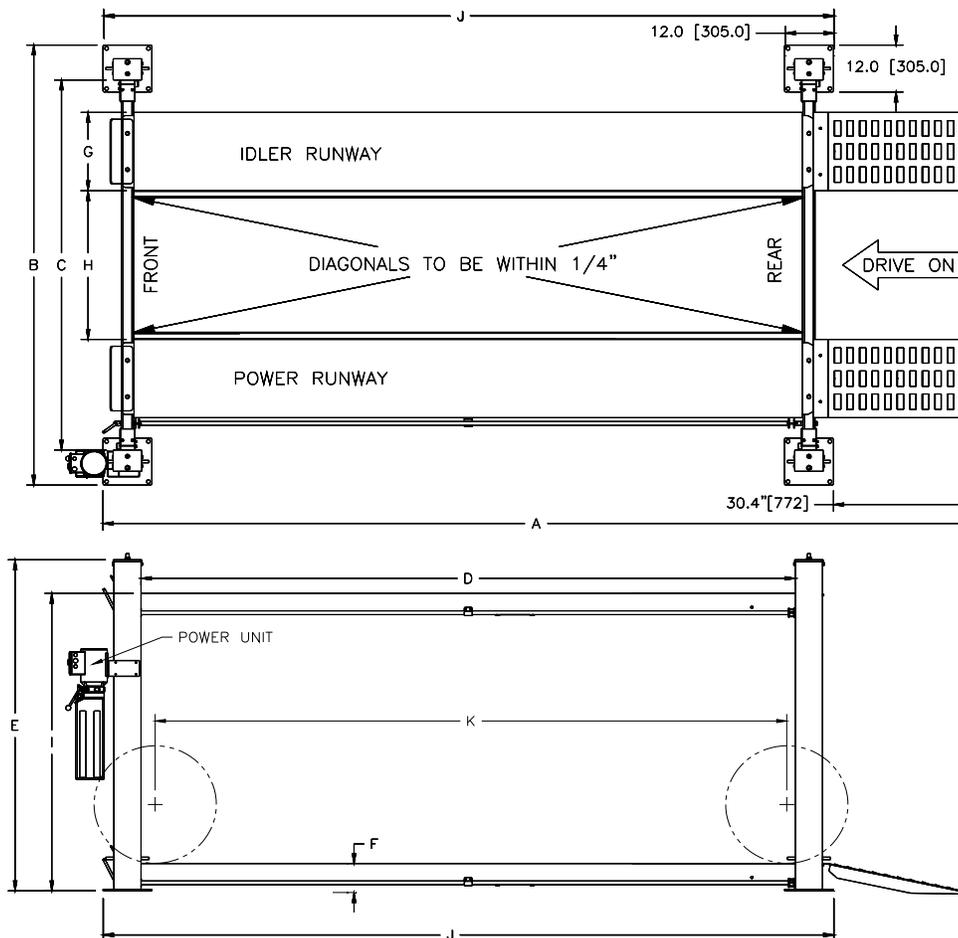
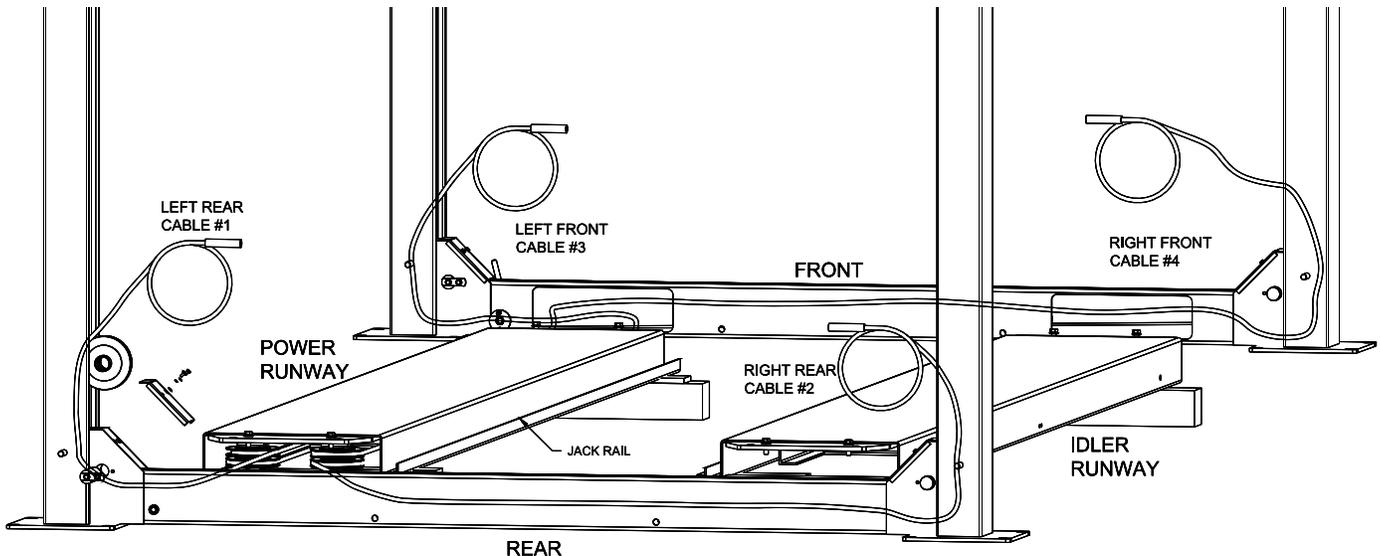

Fig 1 – General Specifications and Service Bay Layout
Fig 7 – Runway Layout
- 1) Lay out the service bay according to the architect's plans or owners' instructions (*see Fig 1*). Be certain that the proper conditions exist, see pages 2 & 3.
- 5) Disassembly each column assembly place the columns close to each corner per layout (column with the power unit bracket goes at the front left column per **Fig 1**).
- 6) With the runways spaced per **Fig 1** and blocked per **Fig 7**, using four 30" long 4x4's spanning the width of the runway and four 12" long 1x4's to shim up the jack-rail side of the runway.
- 10) Cable #1 & #2 should be extending out from the rear of the power runway and cable #3 & #4 from the front of the power runway, **Fig 7**.
- 11) Position the front and rear cross beams, **Fig 7**.